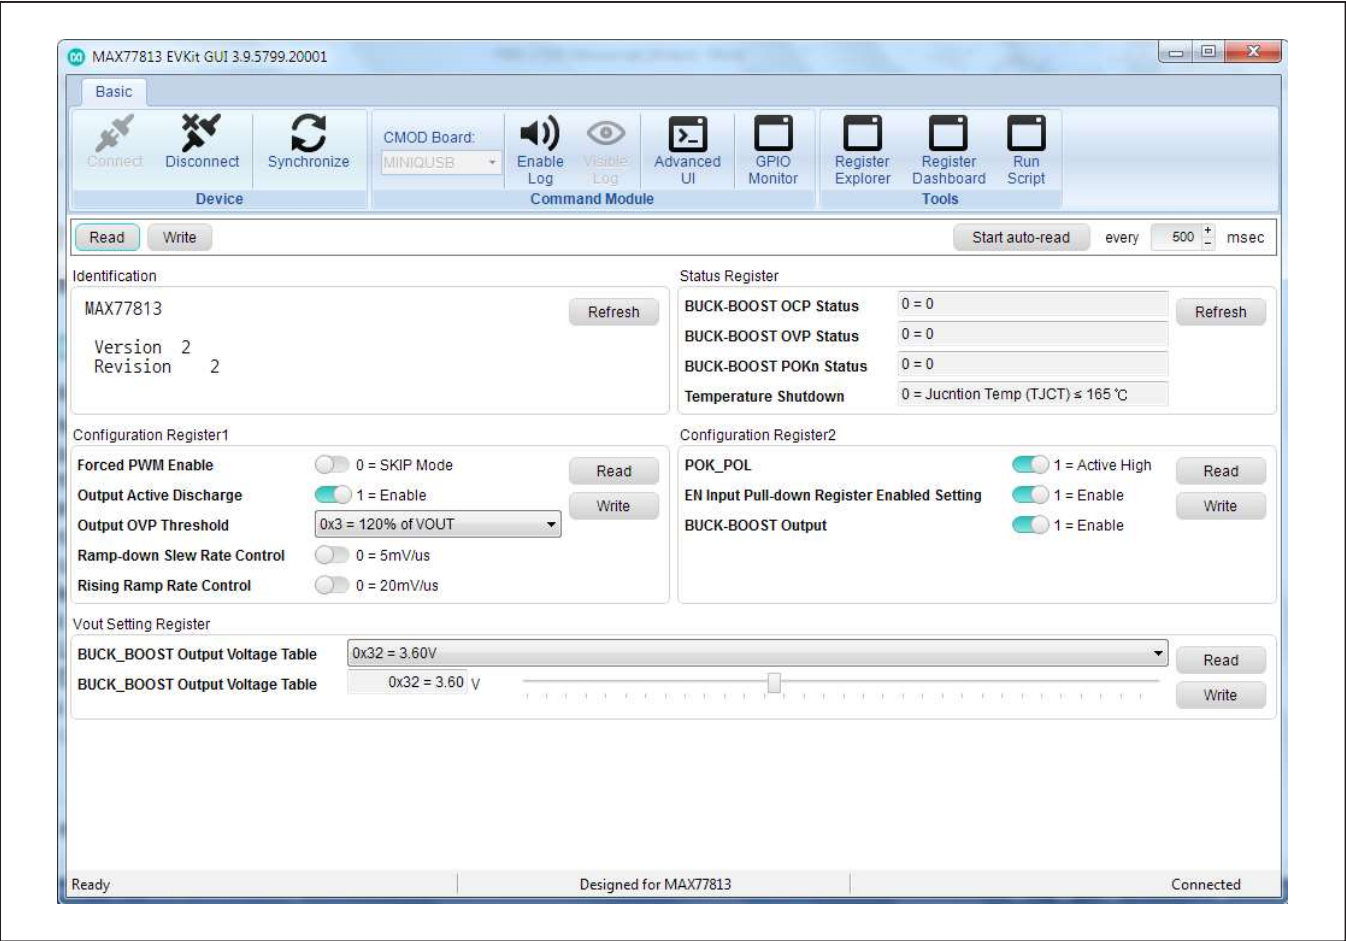

Figure 3. MAX77813 Evaluation Kit Software Window (CHIPID/STATUS/CONFIG Tab)
- Start the EV kit software by opening its icon in the **Start | Programs** menu. The EV kit software main window appears, as shown in Figure 3.
The GUI shown in Figure 3 is the main window of the EV kit software that provides a convenient means to control the IC. Use the mouse to navigate through the GUI controls.